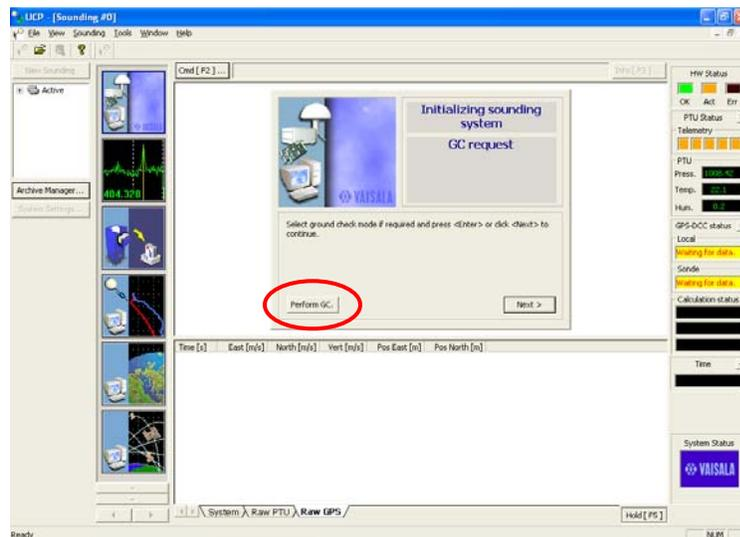

Figure 9
33. When the following screen (Figure 9) appears, click on “Perform GC.”